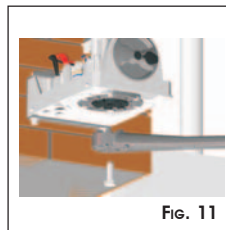

Fig. 11
- ⑥ Install the straight arm (Fig.11) with the supplied screw.